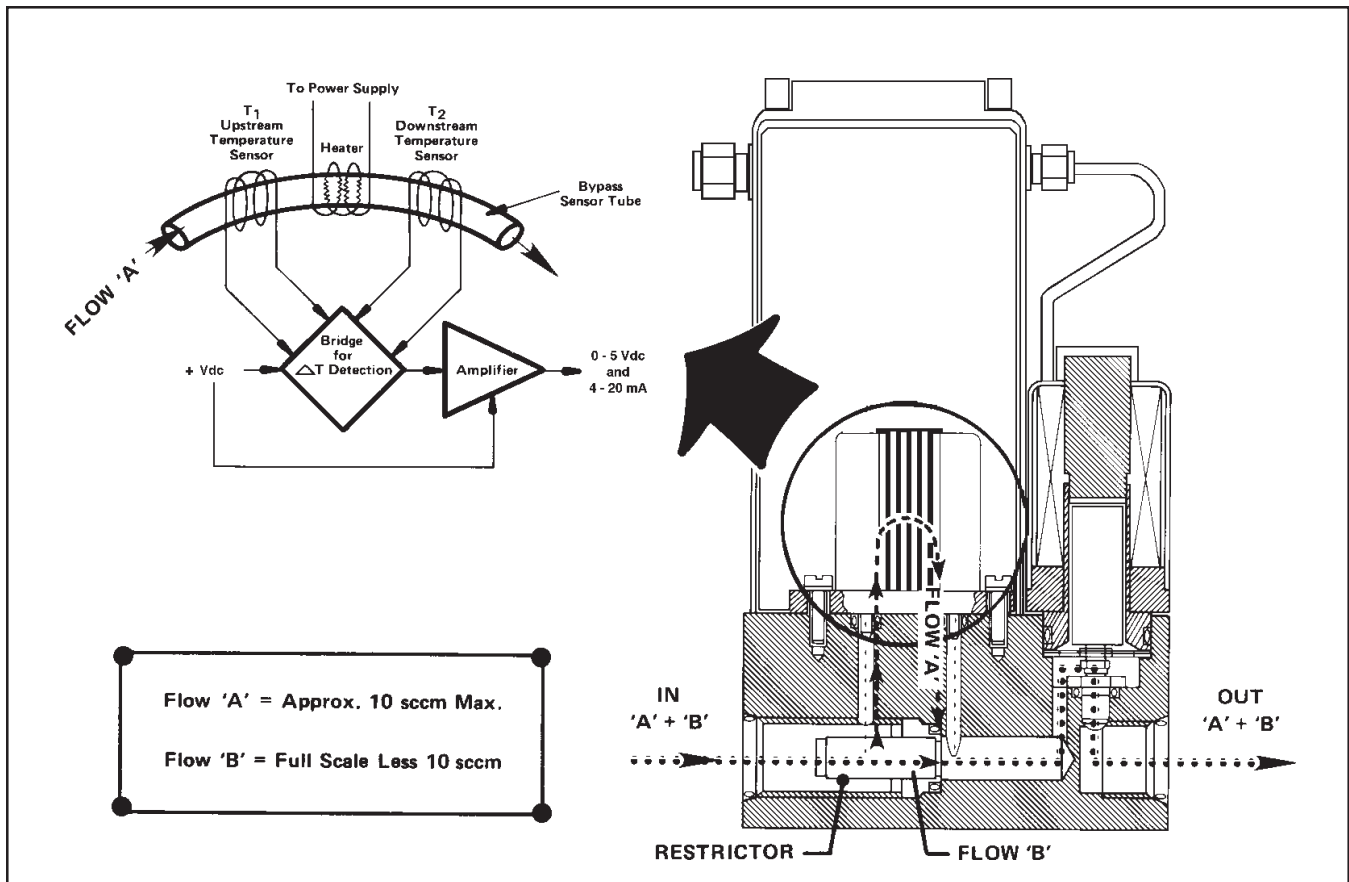

Figure 3-1 Flow Sensor Operational Diagram
A precision power supply provides a constant power heat input (P) to the heater which is located at the midpoint of the sensor tube. Refer to Figure 3-1. At zero or no flow conditions, the heat reaching each temperature sensor is equal. Therefore, the temperatures T1 and T2 are equal. When gas flows through the tube, the upstream sensor is cooled and the downstream sensor is heated, producing a temperature difference. The temperature difference T2-T1 is directly proportional to the gas mass flow.
A bridge circuit interprets the temperature difference and a differential amplifier generates a linear 0-5 Vdc signal directly proportional to the gas mass flow rate. The flow restrictor shown in Figure 3-1 performs a ranging function similar to a shunt resistor in an electrical ammeter. The restrictor provides a pressure drop that is linear with flow rate. The sensor tube has the same linear pressure drop/flow relationship. The ratio of the restrictor flow to the sensor tube flow remains constant over the range of the meter. Different restrictors have different pressure drops and produce controllers with different full scale flow rates. The span adjustment in the electronics affects the fine adjustment of the controllers full scale flow.